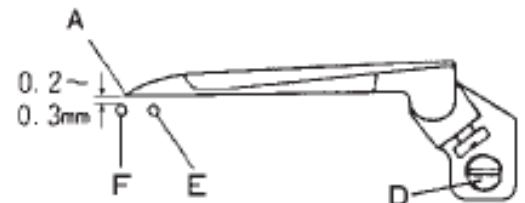

Fig. 9
G. 2 Needle Machines when the point (A) of Looper meets left Needle (F), there should be a clearance of 0.2- 0.3 mm between them. Adjust this loosening Screw (D) on Looper Holder.
Push right Needle (E) with the effect of rear Needle Guard and provide a clearance of 0-0.05mm between Needle (E) and point of Looper (Fig. 9).